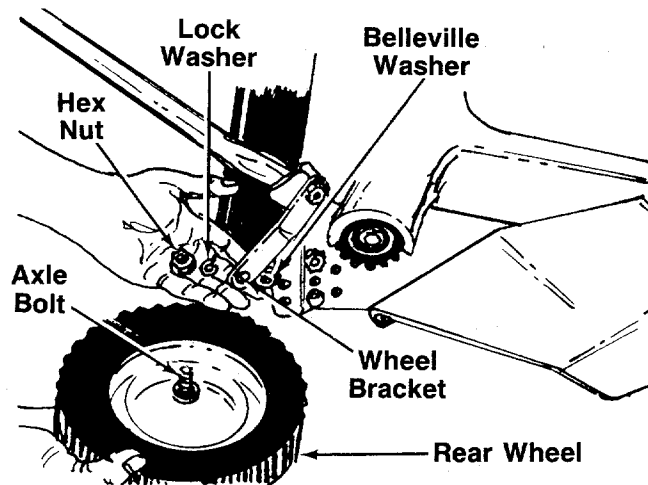

FIGURE 16.
2. Reassemble in selected hole. The belleville washer must be assembled between the link and wheel bracket, with the cupped side of the washer against the deck. See figure 16.